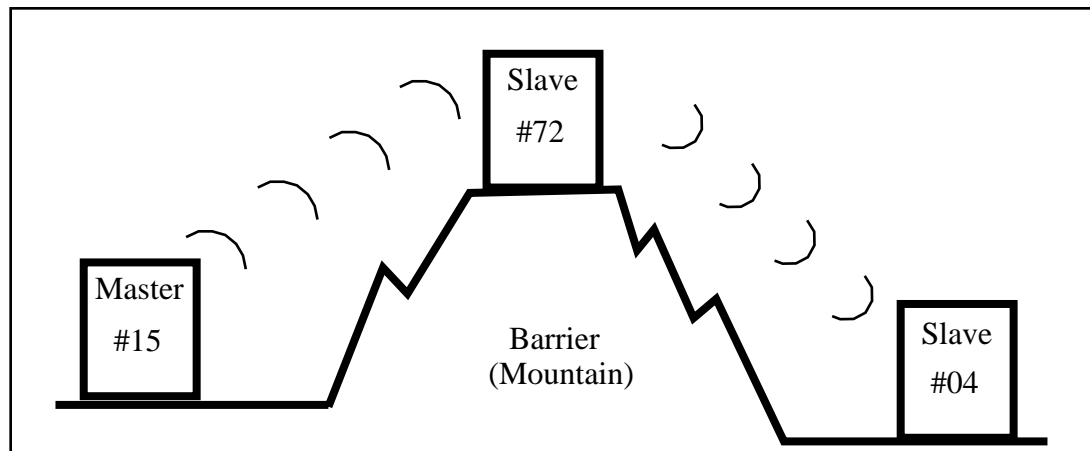

Figure 12-2 RNIM Repeater Example
Figure 12-2 displays an RNIM Master (15) on one side of a mountain, a Slave (04) on the other side of the mountain, and a Slave (72) at the top that can communicate with the other two. If a source on the Master's network (16) wants to send a READ to a PLC (87) on the Slave's network on the other side of the mountain, the route would be: 16, 15, 172, 4, 87.